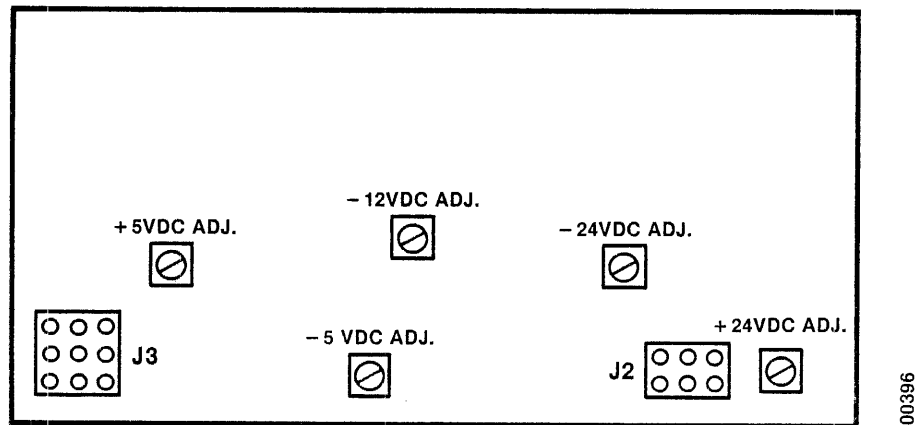

Figure 5-8 Power Supply Voltage Adjustments
3. SMD Voltage adjustments on the power supply (Figure 5-8) are for +5VDC (+5VDC ADJ), -12VDC (-12VDC ADJ), and +24VDC(+24VDC ADJ). (See Figure 5-8 for locations.)
adjustment for the -24Vdc (-24V ADJ.) can be checked at the power connector labelled 'J2' on the power supply, (see Figure 5-8 for connector location).